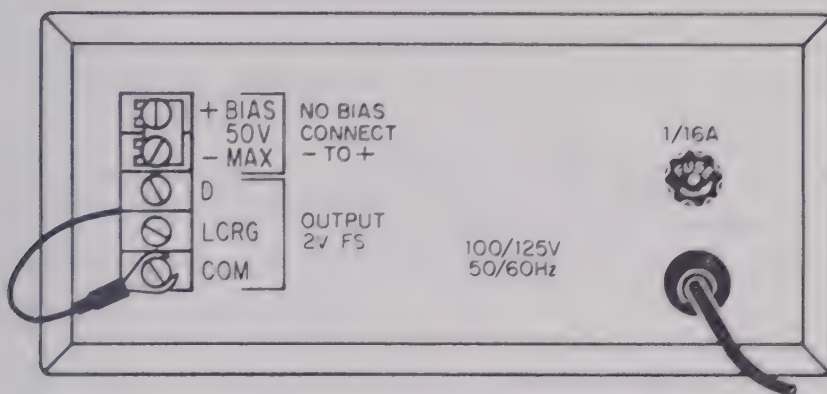

Figure 2-12.
1. Locate the connector strip on the rear panel (see Figure 2-12).